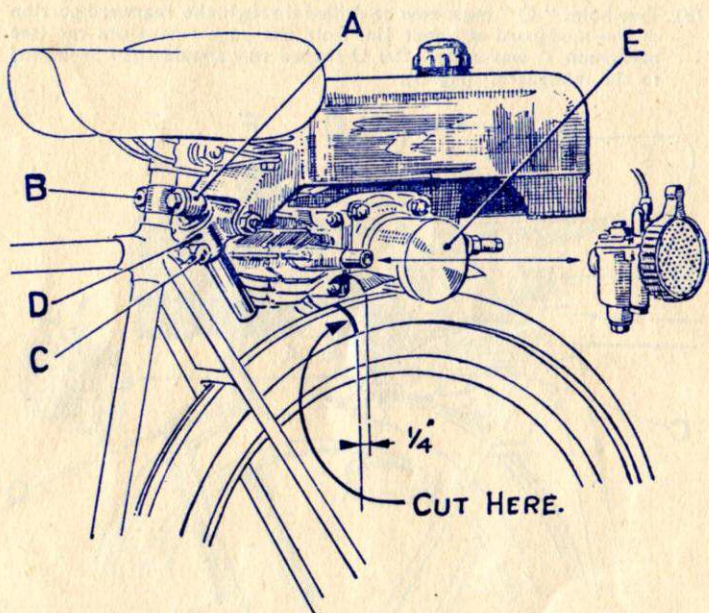

Fig. 2
- (1) Rest the unit on the rear mudguard (if there is a carrier or other fitment over the rear wheel this must first be removed). Fasten the elbow lug "A" on to the saddle pillar as low as possible, but do not completely tighten the clamp bolts "B" (Fig. 2.)
- (3) Make a mark on the mudguard at a distance of about $\frac{1}{4}$ in. forward of the roller mudguard "E" remove the unit and cut the mudguard in two halves at the mark, allowing the rear portion of the cut mudguard to swing backward, leaving a space between the two ends. (Fig. 2.)